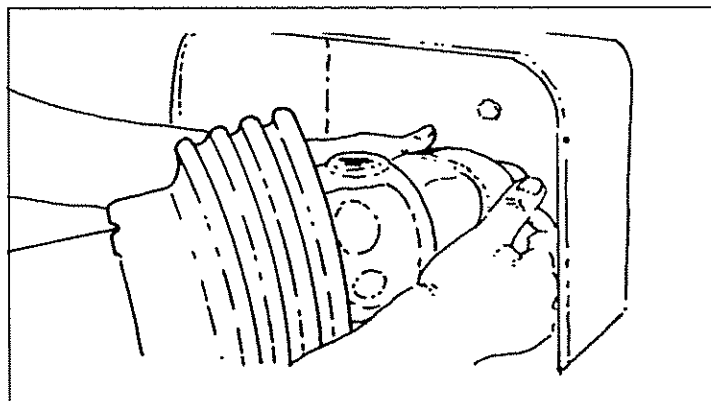

FIGURE 29
2. Attach the leveling rods to the rear axle with (2) -  $3/4$ " x  $2-3/4$ " bolts, (2) - bushings, and (2) - locknuts. Tighten securely. See **Figure 29 & 20**.